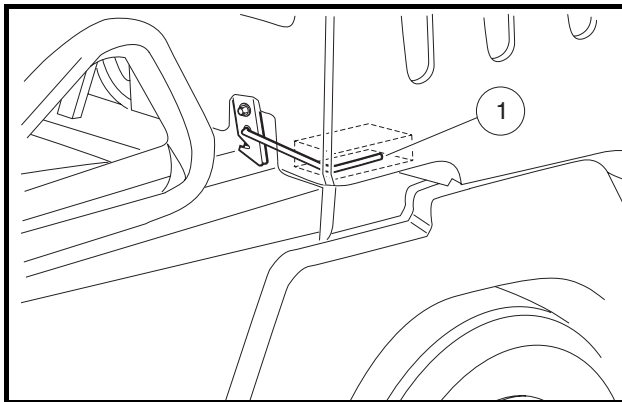

Figure 15 Bed Latch
The bed latch (1) is located under the front corners of the bed (**Figure 15, Page 24**) and engages automatically when the bed is closed. To lift the bed, pull the bed latch toward the side of the vehicle and lift the bed. To close the bed gently lower the bed to a closed position. **DO NOT** drop the bed. **See following WARNING.**